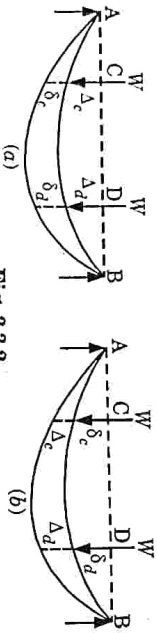

Fig. 3.3.2.
- Now change the order of loading as shown in Fig. 3.3.2.(b). Now consider initially load W is at D. Due to this load,